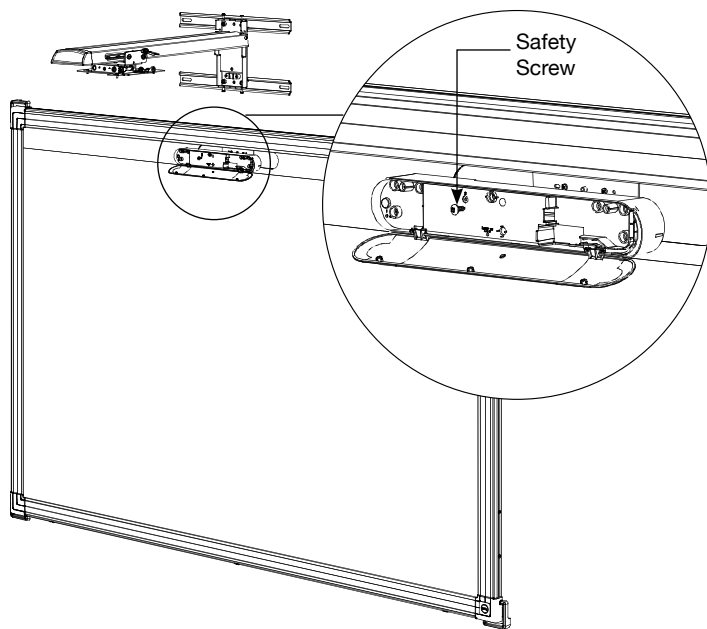

Figure 11
19. Secure IR sensor bar (packaged with the S520 Projector) to screen by sliding it onto the metal bracket. Insert safety screw through IR sensor bar into bracket (Figure 11).